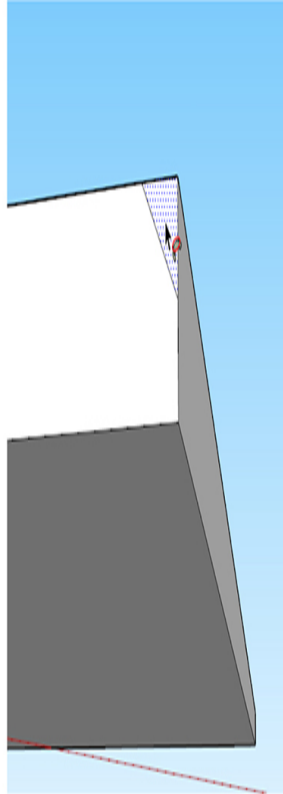

Figure 3-17 The Follow Me tool.
3. Bevel the stand. Draw a line with the Pencil tool as shown in Figure 3-16. Then activate the Follow Me tool (Figure 3-17). Like Push/Pull, this tool extrudes a face into a form, but it can extrude around corners, not just up and down.